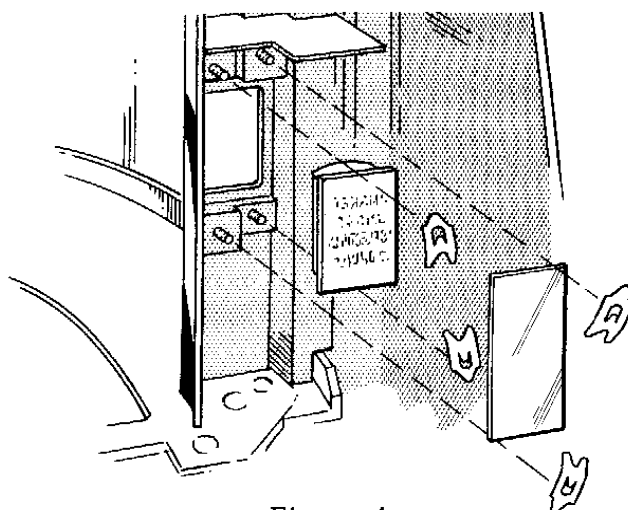

Figure 4.
2. In the 2-credit position, the lower left credit window lights up to indicate "10¢ Credit - Another Coin Required". This credit window, Part No. 505553 is available from your Seeburg Distributor and is installed as shown in Figure 4.
Deposit of a nickel will light up the lower right hand credit window and indicate "5¢ Credit-Another Coin Required". This credit window (Part No. 505552) is factory assembled in the lower left hand side of the V-3WA-N Wall-O-Matic cover and must be transposed with "Make 5¢ Selection Only" (Part No. 505554) to satisfy combination No. 3. See Figure 4 for method of assembly.